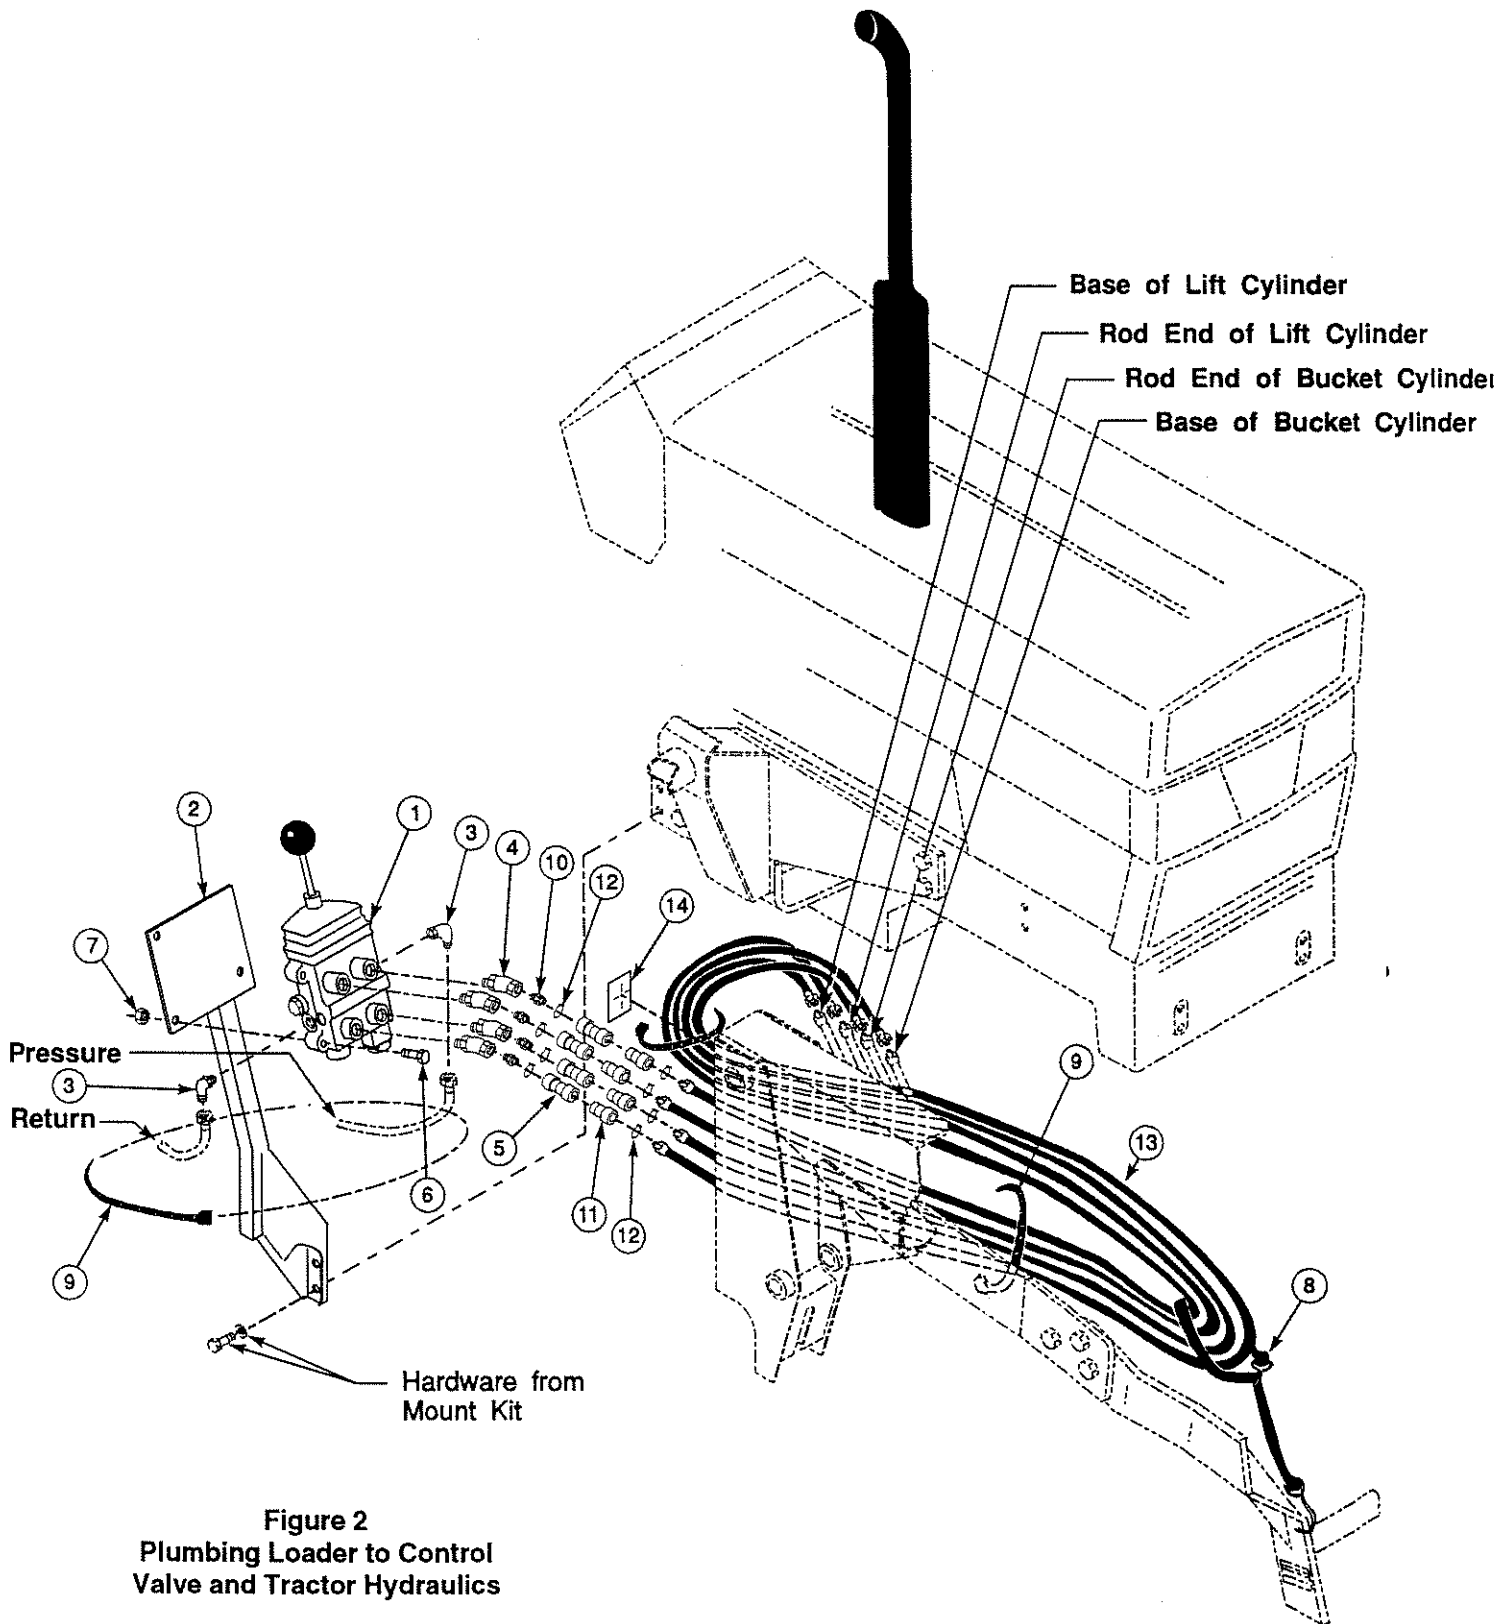

Figure 2
ATTACHING VALVE AND STAND TO TRACTOR (Figure 2)
PLUMBING CONTROL VALVE TO TRACTOR HYDRAULICS (Figure 2)
Connect pressure and return hoses from tractor hydraulics to ports in valve (1)(Figure 2).
2. Route hoses down along valve stand (2) and secure with plastic tie strap (9).